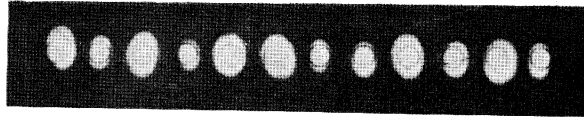

Figure 4-13. Typical Light Patterns
5. Center light beam on target in lamp positioning gage (P/N 627700) (Figure 4-13). (The lamp-holding clip can be moved within its slot for this adjustment.) Tighten lock screw on lamp-holding clip.